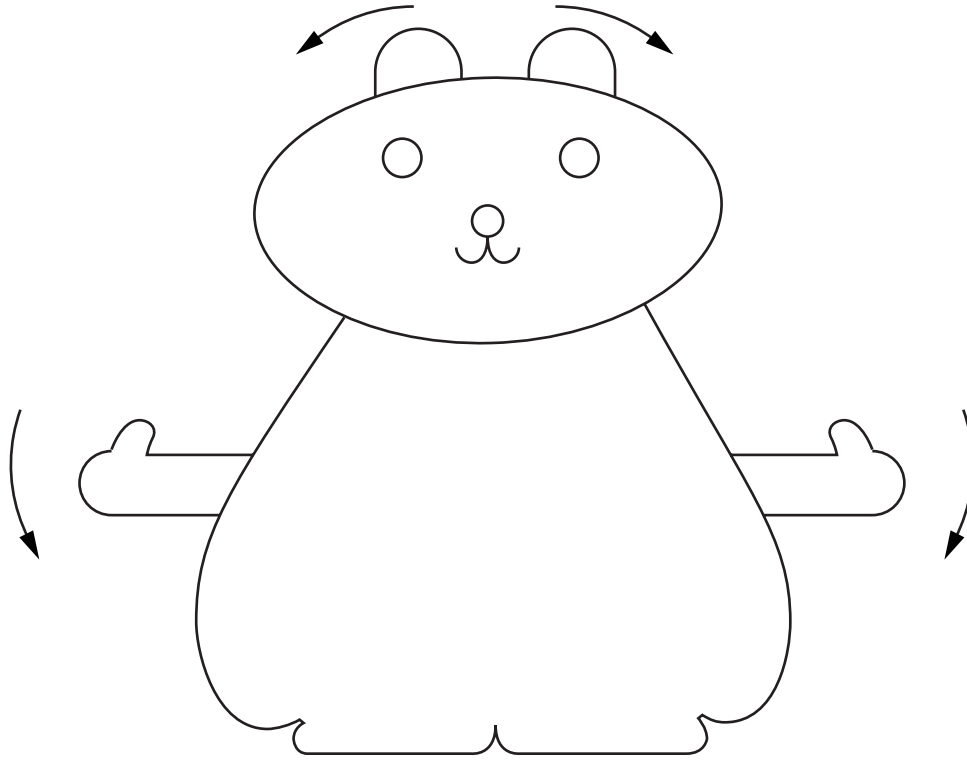
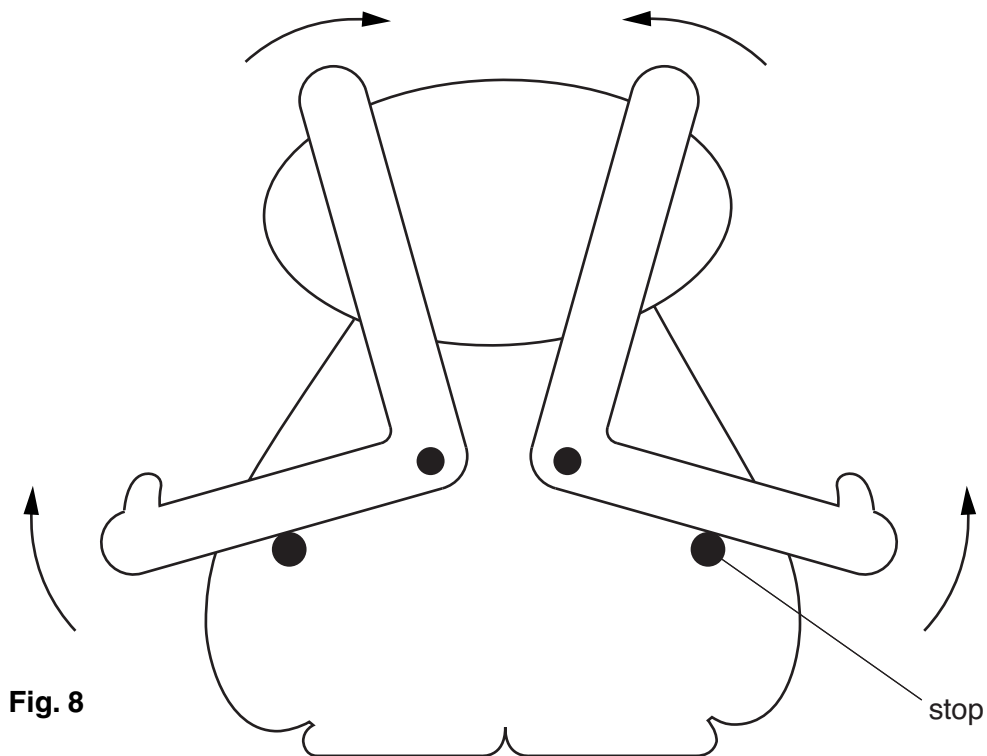

Fig. 7
Fig. 8
- 4 Fig. 7 shows the front view of a novelty clothes hook made from 6 mm thick plastic. When clothes are hung over the hands, the ears move as shown.
- (a) Fig. 8 shows the back of the clothes hook. Add sketches and notes to Fig. 8 to show how the arms and ears could be made to move back to the position shown in Fig. 7 after the clothes have been removed.